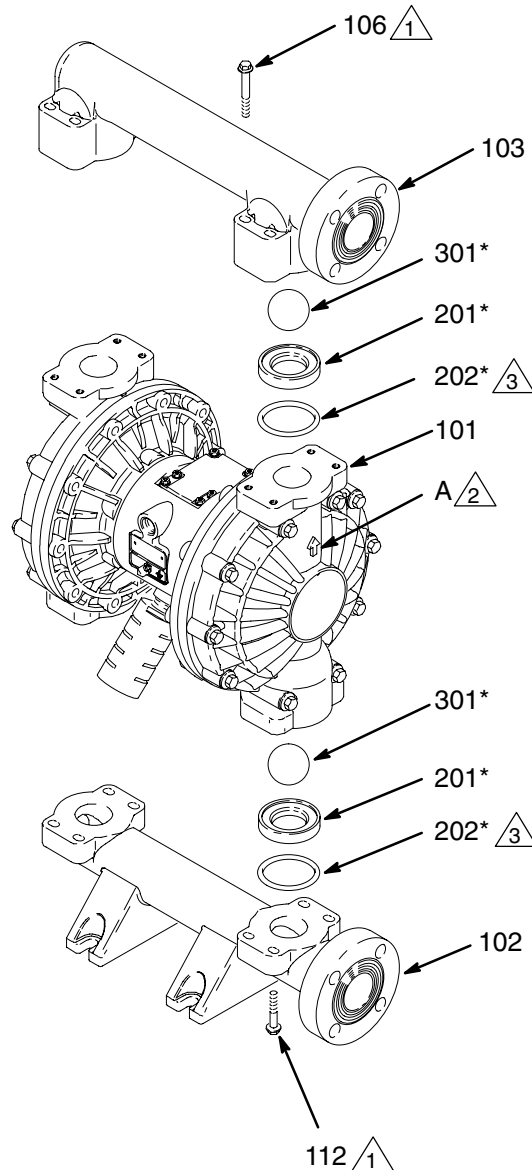

Fig. 11
3. Using a 10 mm socket wrench, remove the eight bolts (106) holding the outlet manifold (103) to the fluid covers (101). See Fig. 11.
4. Remove the seats (201), balls (301), and o-rings (202) from the manifold.
2. Reassemble in the reverse order, following all notes in Fig. 11. Be sure the ball checks are assembled **exactly** as shown. The arrows (A) on the fluid covers (101) **must** point toward the outlet manifold (103).
- ⚠² Arrow (A) must point toward outlet manifold (103).